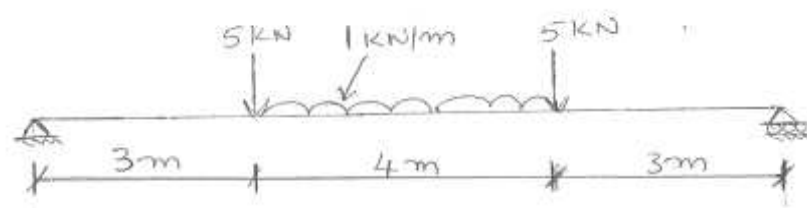

Figure 6
- (a) Sketch the shear force and bending moment diagrams showing the salient values for the loaded beam shown in the figure 6 below. [16]